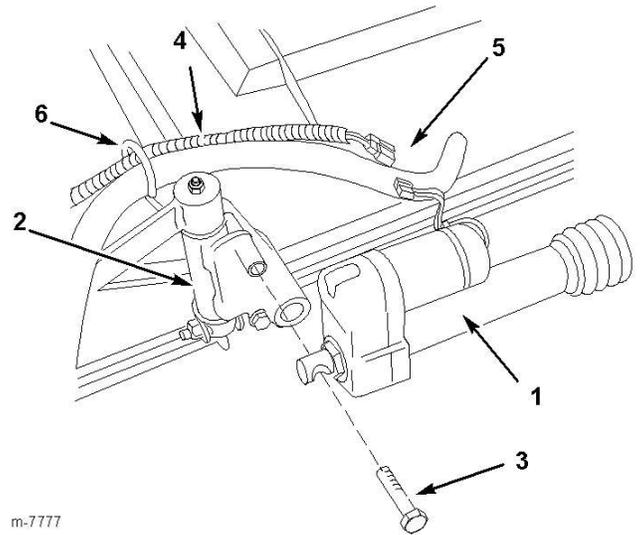

Figure 15
2. Install the actuator assembly to the breakaway pivot mount using a bolt (1/2 x 5 inch) as shown in Figure 15. Connect the 6 inch extension harness to each of the actuators
4. Make sure to route the wiring along the boom feed hose and through the retainer ring (Fig 15).